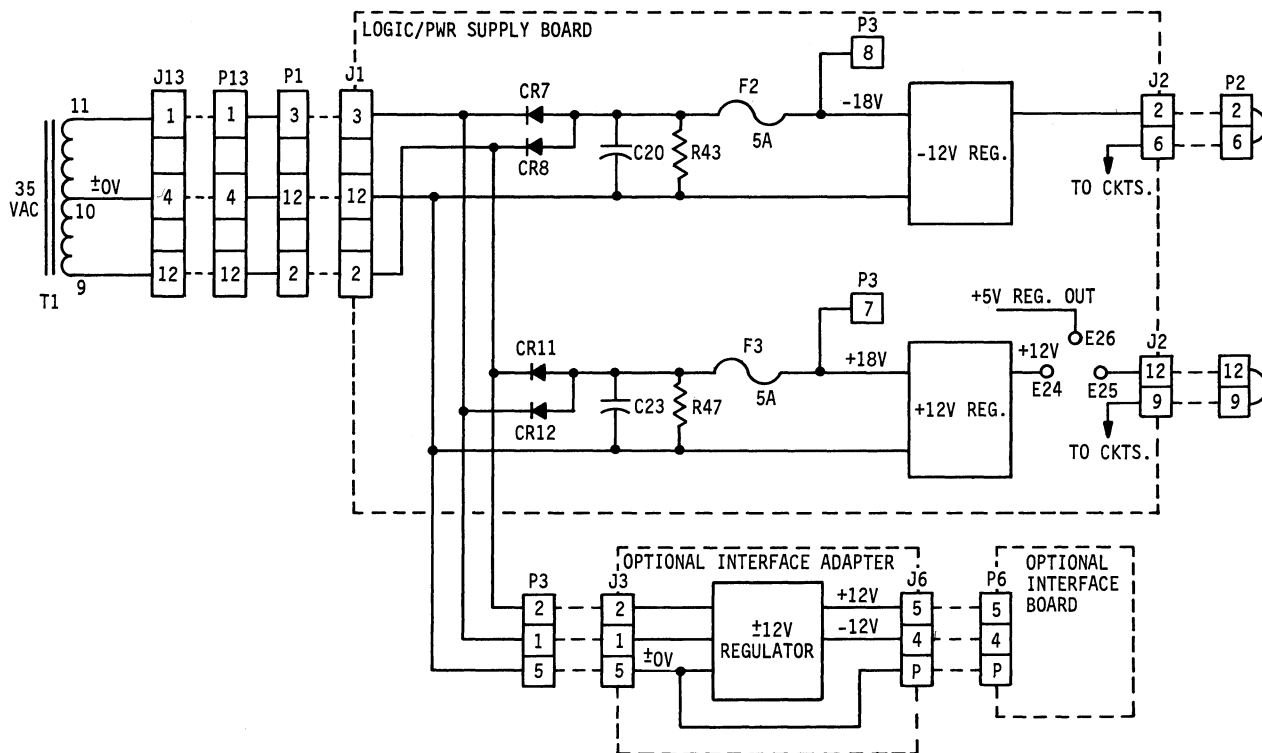

Figure 4-17. $\pm 12V$ REGULATORS INTERCONNECTION DIAGRAM
4.9.2 +12V and -12V REGULATORS (Figure 4-17)